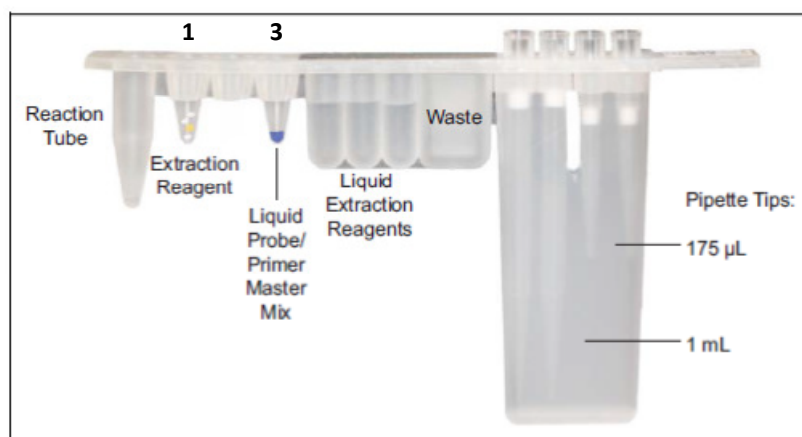

Figure 1: DNA Unitized Reagent Strip setup.
- 2.2.a. Snap a DNA extraction BD Exk-1 Reagent tube (white seal) into position **1** of the DNA Strip, see Figure 1.
- 2.2.b. Snap a ESB Screen reagent tube (orange seal) into position **3** of the DNA Strip, see Figure 1.